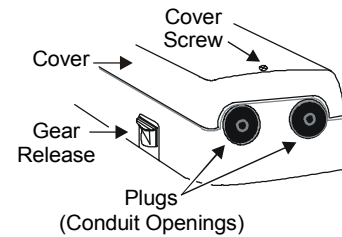

Figure 11: Location of the Conduit Openings
2. Push the plastic conduit plug out of the conduit opening with fingertip. (See Figure 11.)